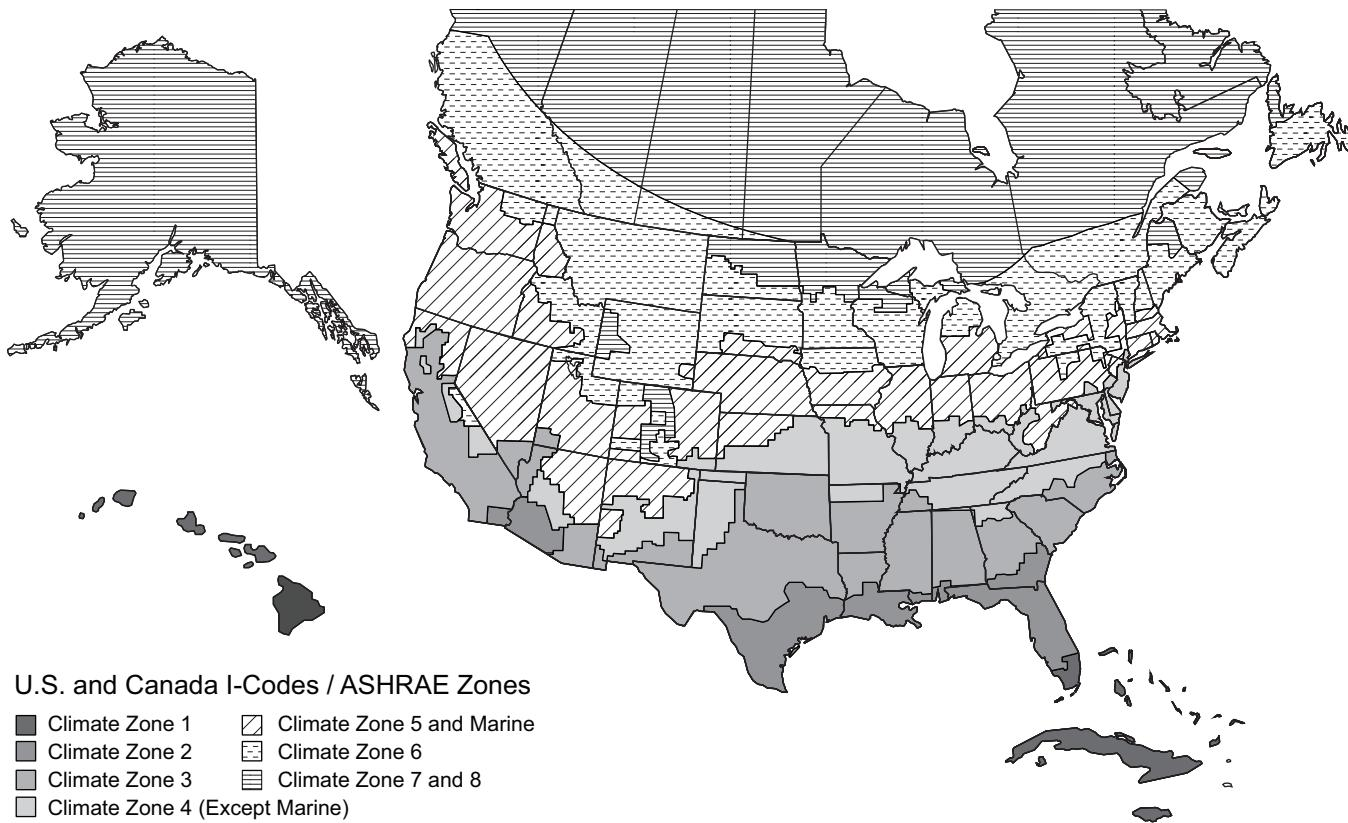

Fig. 86 — U.S. and Canada Climate Zones
- Refer to Fig. 86 for map of U.S. and Canada climate zones.